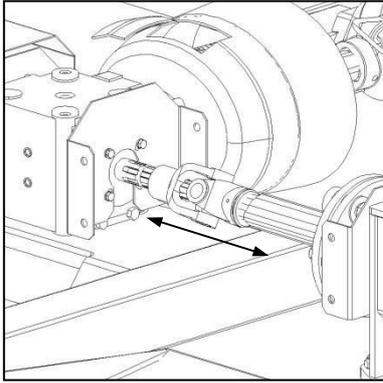
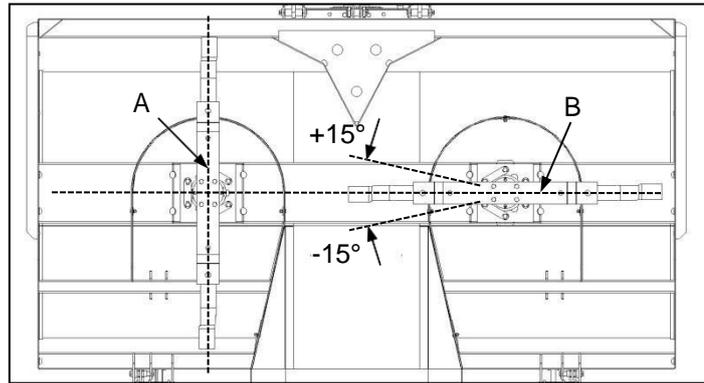

Fig. 7
Fig. 8
- ✔ Fully assemble one half (e.g., left-hand side) of the implement drivetrain and place the blades of that cutting gear assembly in a 0°-180° position (Fig. 8-A).
- ✔ With the right-hand side intermediate shaft disconnected from the center gearbox (Fig. 7), slowly rotate the right-hand cutting gear assembly, pausing on each occasion that the blades are in an approximate 90°-270° orientation (Fig. 8-B).
- ✔ Monteer een helfte (bv. die linkerkant) van die asstel volledig en plaas die lemme van daardie sny-meganismemontering in 'n 0°-180°-posisie (Fig. 8-A).
- ✔ Met die regterkantste tussenas ontkoppel van die sentrale ratkas (Fig. 7), draai die regterkantste sny-meganismemontering stadig en stop elke keer wanneer die lemme in ongeveer 'n 90°-270°-oriëntasie is (Fig. 8-B).